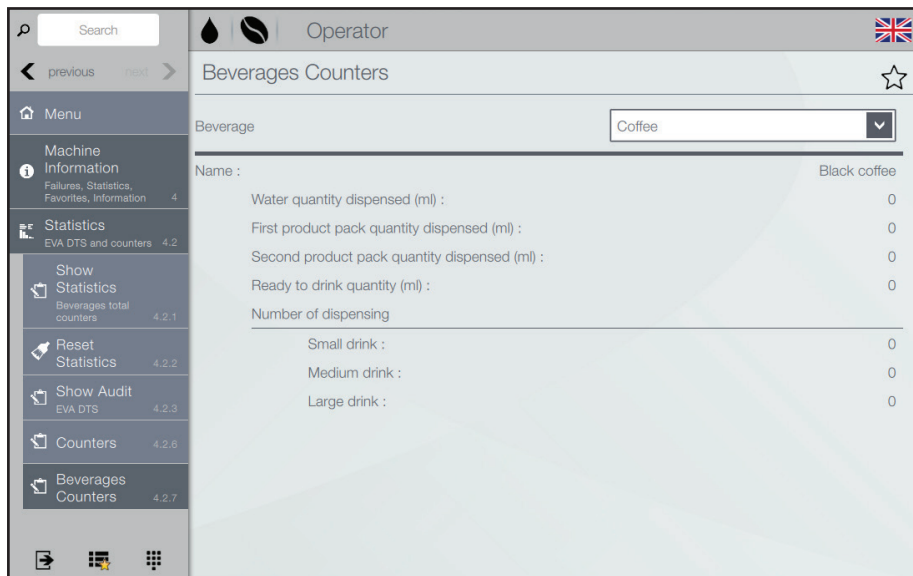

Fig. 6.15- Drink Counters
- Tap on menu items 4 > 4.2 > 4.2.7
- Tap on the pull down menu "Beverage" to select the requested drink (fig. 6.15).